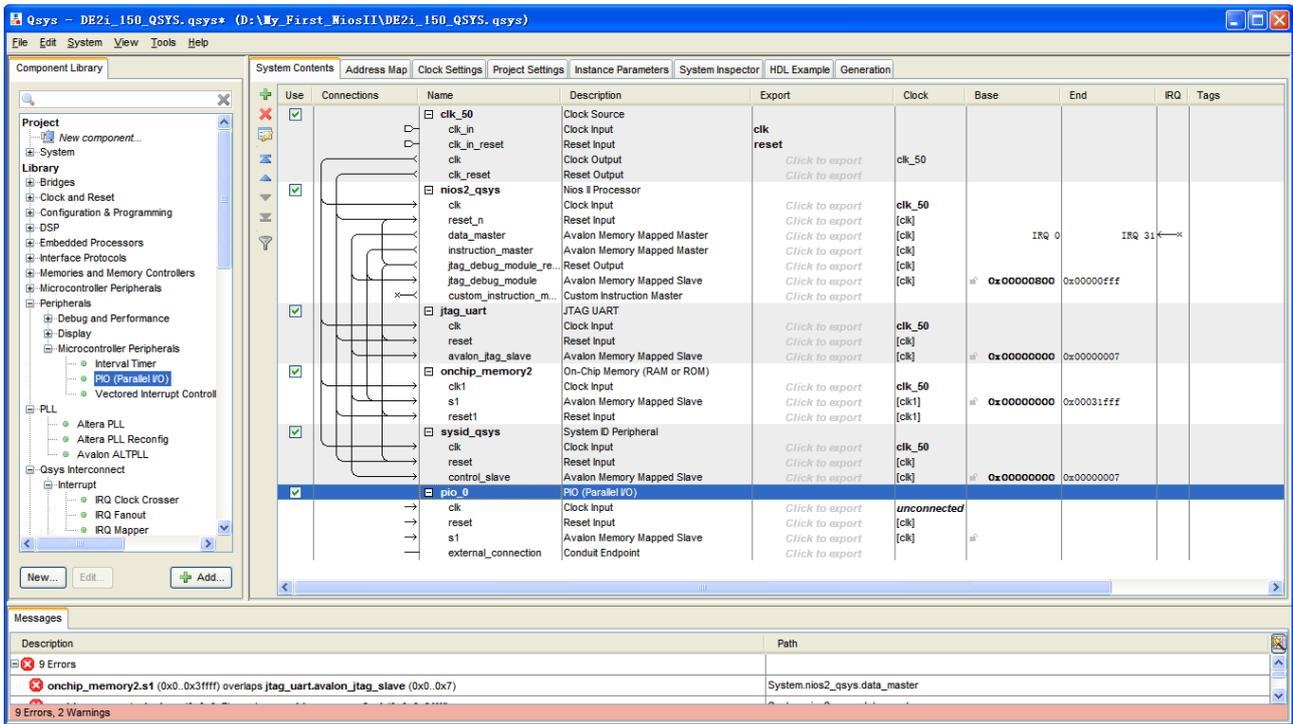

Figure 1-39 PIO
24. Click **Finish** to close PIO box and return to the window as shown in Figure 1-39.